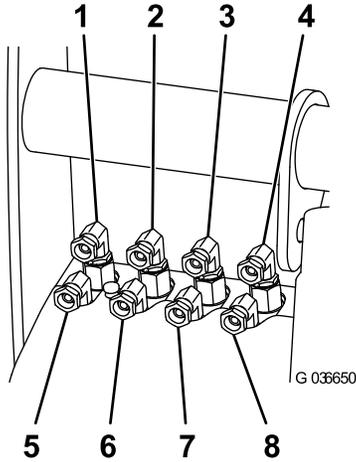

Figure 7
Refer to Figure 7 when installing the hoses to the hydraulic shelf.
1. Connect a 1.8 m (73-1/2 inch) hose to the XL2 port on the hydraulic shelf, and a 1.5 m (59-1/2 inch) hose to the XL1 port (Figure 7). Turn the fitting until it is finger tight, then turn it another 1/4 to 1/2 turn.